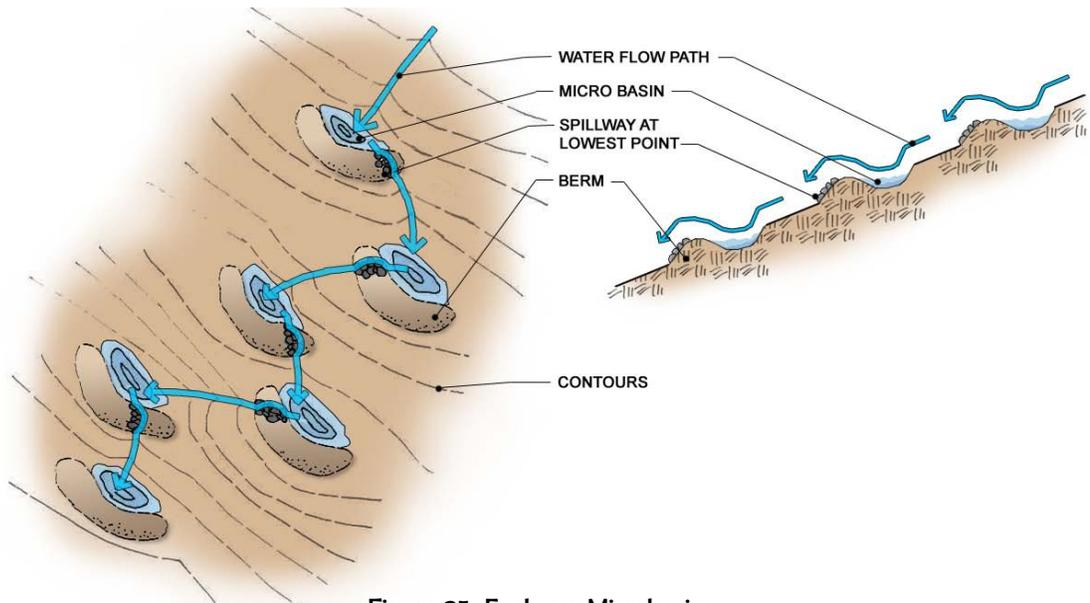

Figure 25. Eyebrow Microbasins
- **Eyebrow** - Dig out a depression (basin) and deposit the excavated dirt downhill and on the sides of the basin to create a thick, gently sloped berm in the shape of a crescent pointing away from the water entry point as shown in Figure 25. A spillway to direct overflow can be created with an armored depression at the desired point along the berm. Compact the berm to help prevent it from eroding. The berm can also be armored with rip-rap or cobble or planted to further prevent erosion. Planting selections should consider conditions in the basins, such as the potential for temporary flooding in the bottom. The bottom of the basin can be flat or concave to concentrate water at the desired location or to provide even more infiltration across an area. Flatten the bottom of the basin without compacting. Microbasins should also be mulched and planted to facilitate rapid water infiltration.